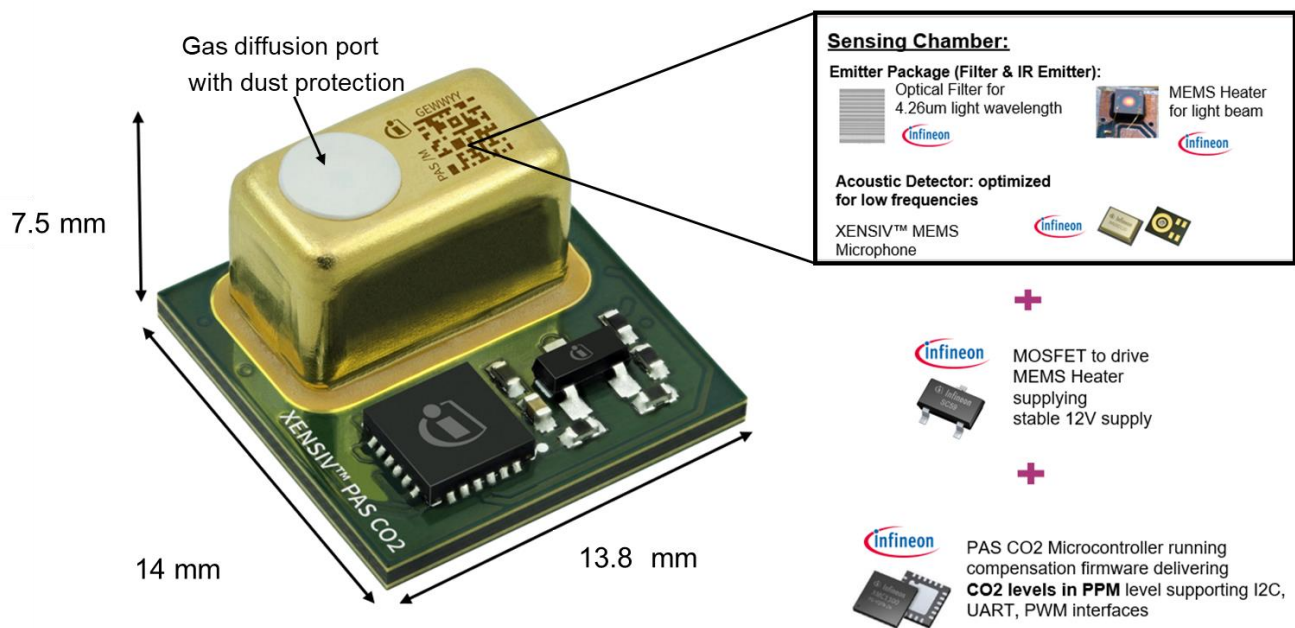

Figure 1 All the key components of XENSIV™ PAS CO2 are developed in-house to ensure best-in-class quality of the sensor
As shown in Figure 1, XENSIV™ PAS CO2 comprises a gas measuring cell with an infrared (IR) emitter, a high-SNR microphone as the acoustic detector, and an XMC™ microcontroller for data processing. The diffuser port on the top side of the measuring cell allows for efficient gas exchange while maintaining dust protection. The sensor module allows for integration via surface mount soldering via the pads on the bottom side of its PCB. All the key components are developed in-house, ensuring the highest quality and performance. However, proper implementation of the sensor in the application environment is essential to achieve the best sensor performance.